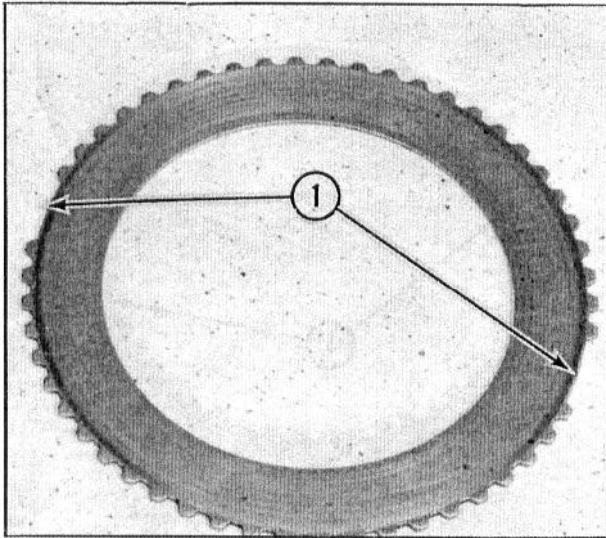

Fig. 50 - Clutch Plate
9. Examine the clutch plates. Notice that they are slightly "dished" and that there are two cut-out portions in the external splines of the plates. See Fig. 50.